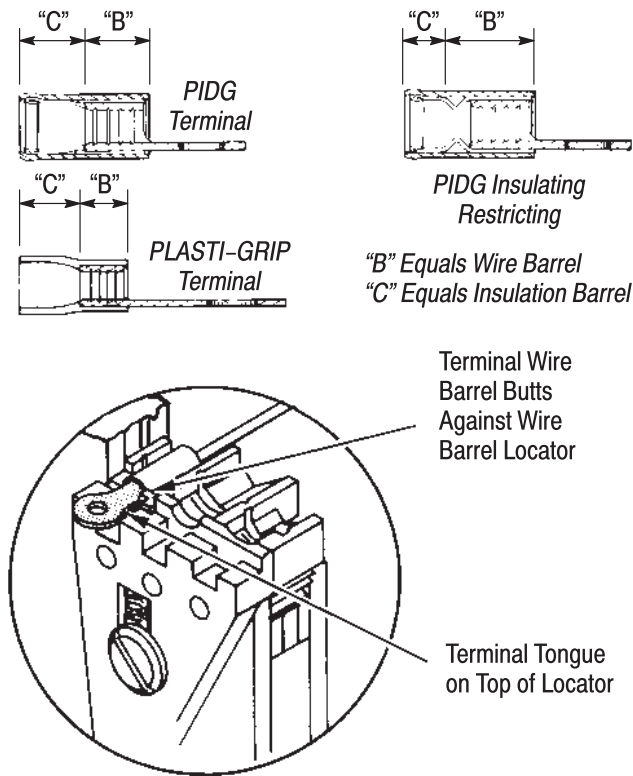
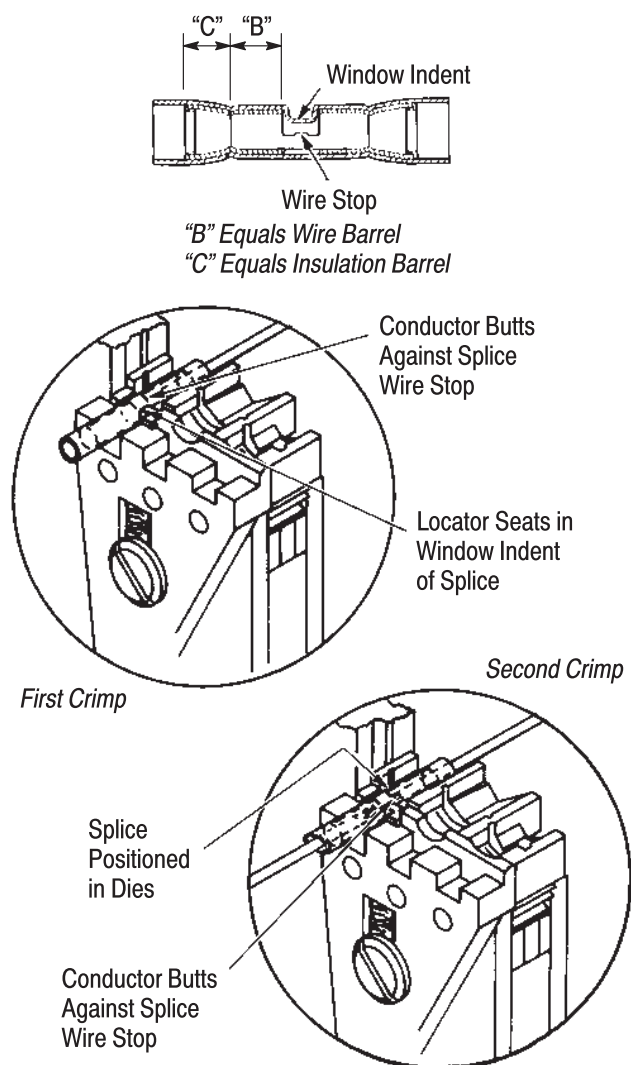

Figure 2
Figure 3
2. Place terminal (or splice) in dies as shown in Figure 2 or Figure 3.
4. Insert properly stripped wire into terminal (or splice) wire barrel "B" as shown in Figure 2 or Figure 3.
6. To crimp other half of splice, remove it and reposition uncrimped half in dies as shown in Figure 3. Follow same procedure used to crimp first half of splice. (If splice cannot be turned, turn tool around.)